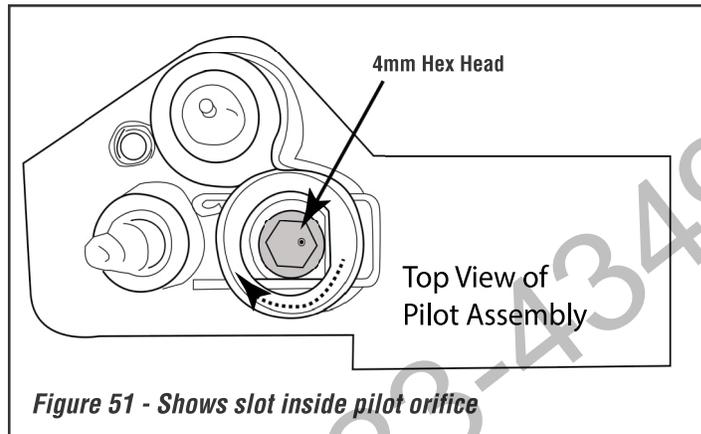

Figure 51 - Shows slot inside pilot orifice
Step 9. Insert a small 4mm hex head wrench into the top of the brass orifice inside the pilot assembly and turn clockwise until it stops (approximately 2 full revolutions). See Figure 51.